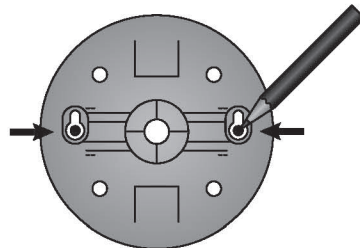

Fig. 2
2. Once the mounting base is separated flip it and use it as a template to mark the position of the screws on the wall using a pencil (Fig. 2).